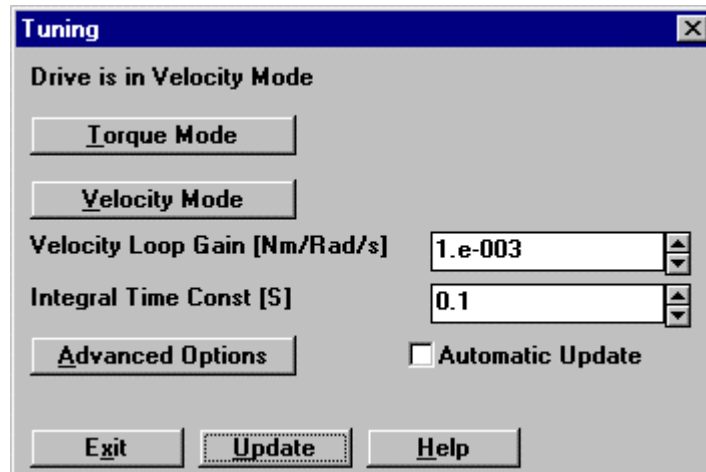

FIGURE 4.40 Tuning Dialog Box
- Confirm that the message “Drive is in Velocity Mode” is displayed at the top of the *Tuning* dialog box (FIGURE 4.40). If it is not select the **Velocity Mode** button and reconfirm message.
- ❑ To set the drive to Torque mode select the **Torque Mode** button in the *Tuning* dialog box (FIGURE 4.40).